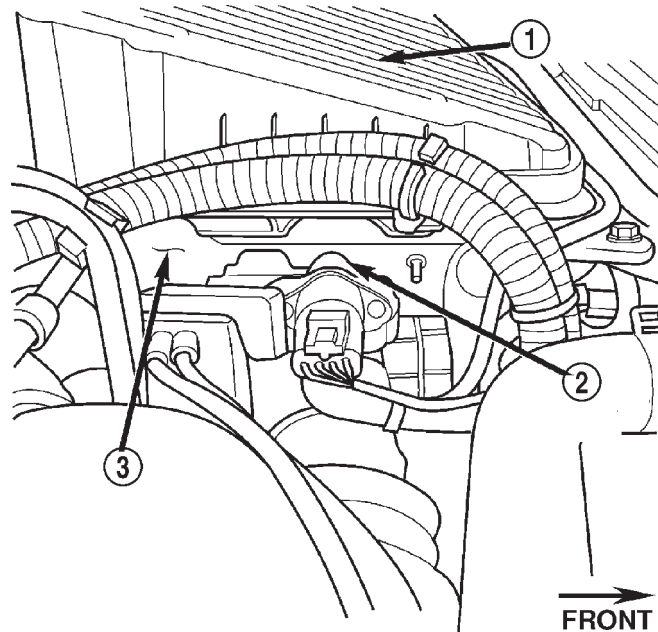

FIGURE 3
5. Inspect the air cleaner for the presence of a capped nipple on the rear of the right side (Figure 3).